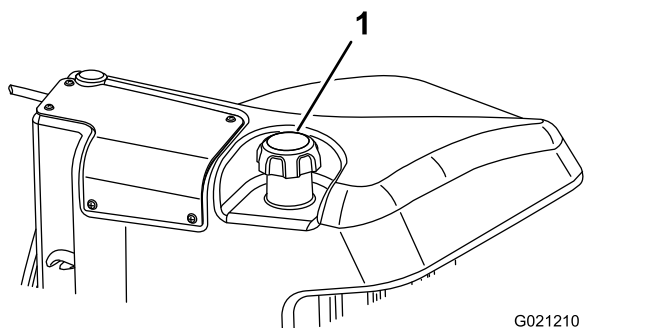

Figure 30
3. Remove the cap from the fuel tank (Figure 30).